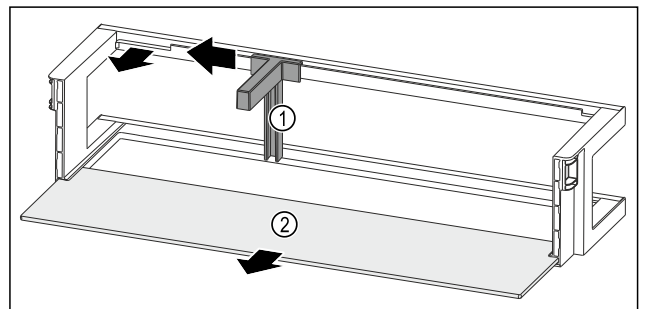

Fig. 237 Door rack with bottle holder and shelf
- Slide the bottle holder Fig. 237 (1) to the side as far as the recess.
- Remove the bottle holder Fig. 237 (1).
- Remove the shelf Fig. 237 (2).